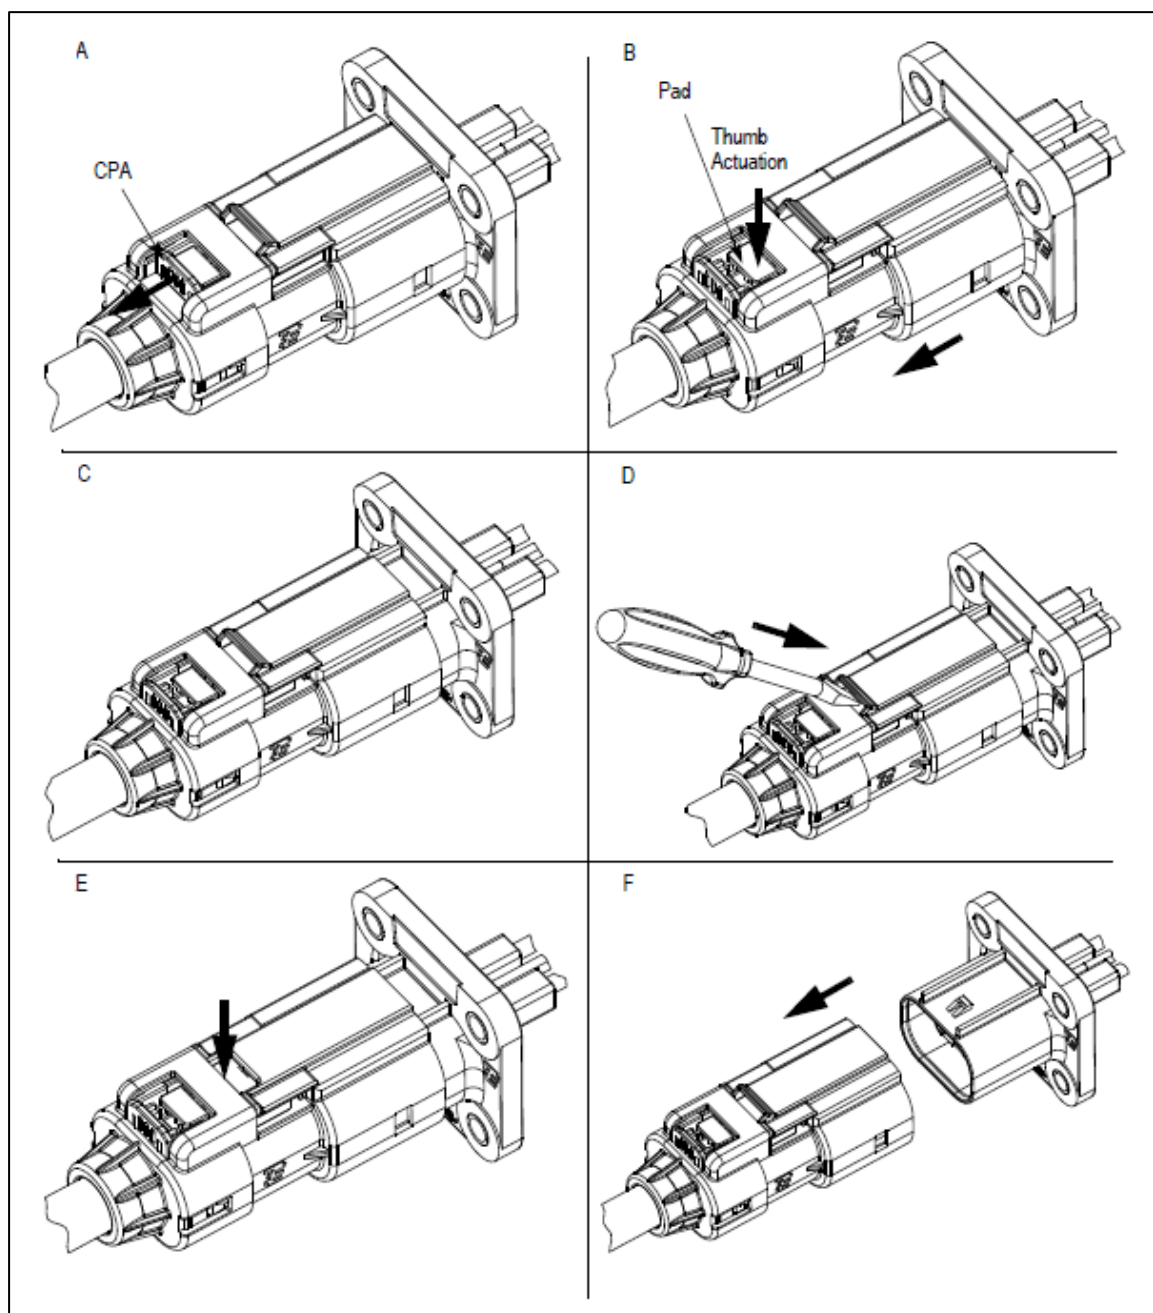

Figure 23 - Connector Unmating
1. If present, pull the red CPA back from the position as shown in Figure 23 (A) until it stops as shown in Figure 23 (B)
2. Fully depress the thumb actuation pad on the plug connector flexible latch (orange) shown in Figure 23 (B) and pull the plug connector back (~6.2 mm) into the intermediate position. See Figure 23 (C). At this point, in the case of the 2-terminal connector, the HVIL circuit has been opened, but the HV terminals are still making contact.
3. Fully depress the actuation pad on the floating latch (black). See Figure 23 (D)..
4. An alternate construction may not require a flat-bladed screwdriver. See Figure 23 (E).
5. Pull the plug connector until it is fully separated from the header. See Figure 23 (F)